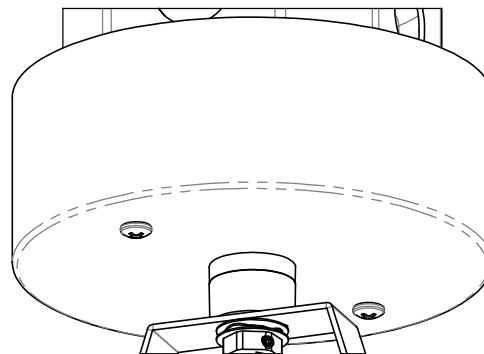

FIGURE 11. INSTALLED 5B CANOPY
5. ATTACH THE CANOPY TO THE CEILING WITH THE TWO SUPPLIED CANOPY MOUNTING SCREWS (**FIG. 11**).